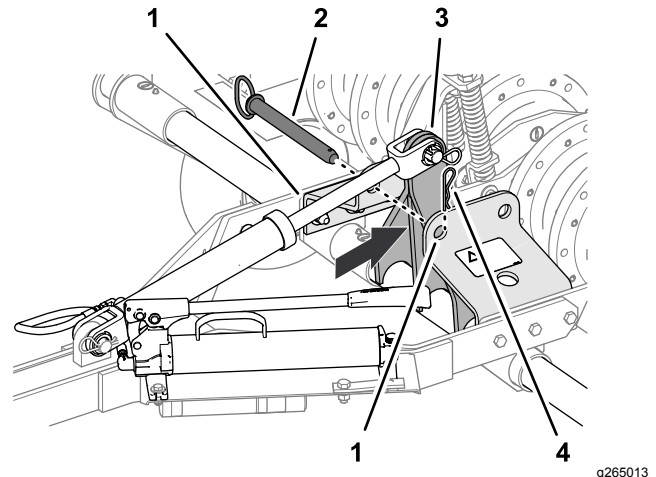

**Figure 11**
4. Fully raise the lower links of the 3-point hitch (Figure 11).